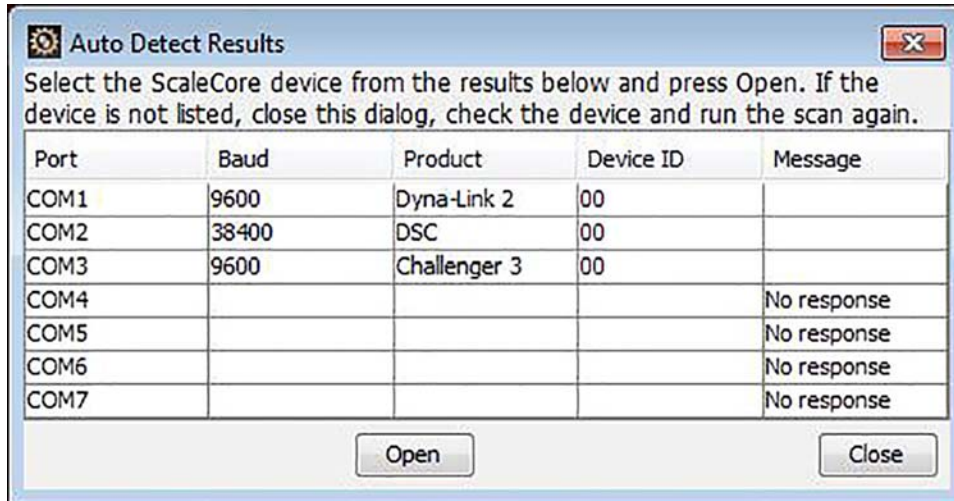

Figure 4-1. Auto Detect Serial Results Dialog
2. Select *Auto Detect Serial*. *Sc2Db* will automatically scan all available serial ports for any attached ScaleCore devices. When the scan is complete, *Sc2Db* will display the detected devices (see Figure 4-1).